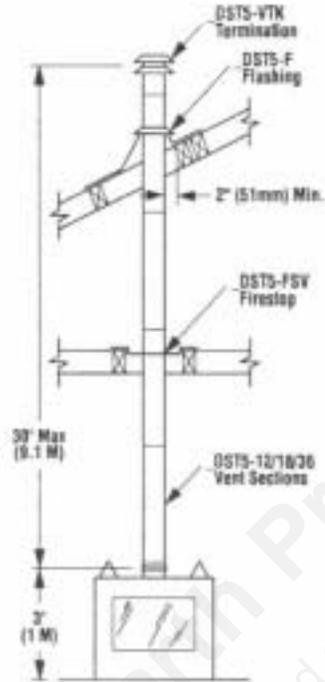

Figure 14
The Figures 14 through 16 and the Vertical Vent Table on page 8 illustrate the various vertical venting configurations that are possible for use with these top vent appliances. The maximum vertical height for the \_DV-43T system is 30' (7.6 m) above the top of the appliance. Figures 15 and 16 along with Vertical Vent Table identify; (A) straight vertical system and (B) vertical system that employs two (2) 90° elbows. The Vertical Vent Table summarizes each system's minimum and maximum vertical and horizontal values that can be used to design and install the vent components in a variety of applications.